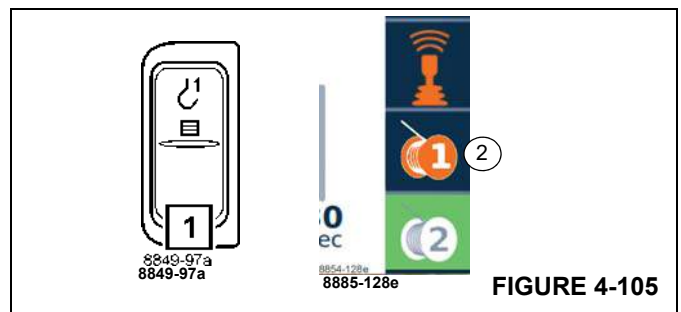

FIGURE 4-105
- Press the button on the right armrest (1), (Figure 4-105) once. Symbol (2), (Figure 4-105) must be red.